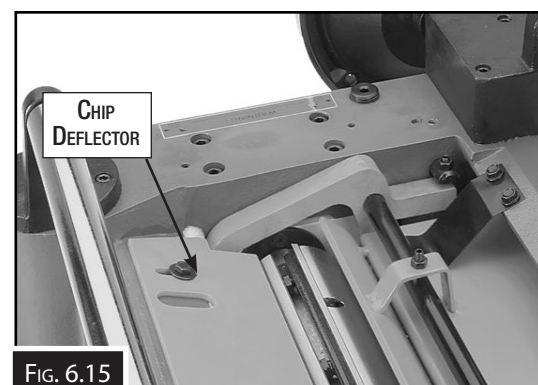

FIG. 6.15
- Rotate the cutterhead pulley until a blade of the cutter head is nearest the chip deflector, then measure that distance between the chip deflector and the blade. (Fig. 6.15).